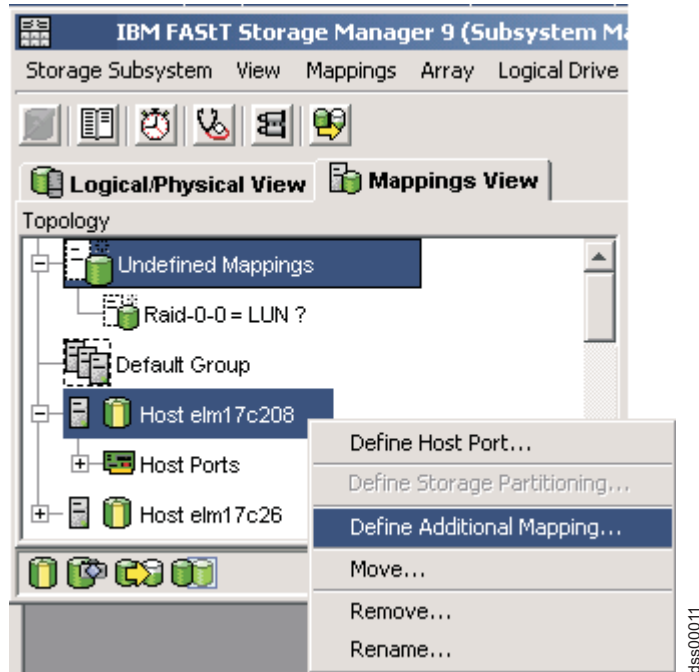

Figure 11. Define Additional Mapping
2. Right-click the host or host group to which you want to map the drive, and click **Define Additional Mapping**, as shown in Figure 11 on page 25.